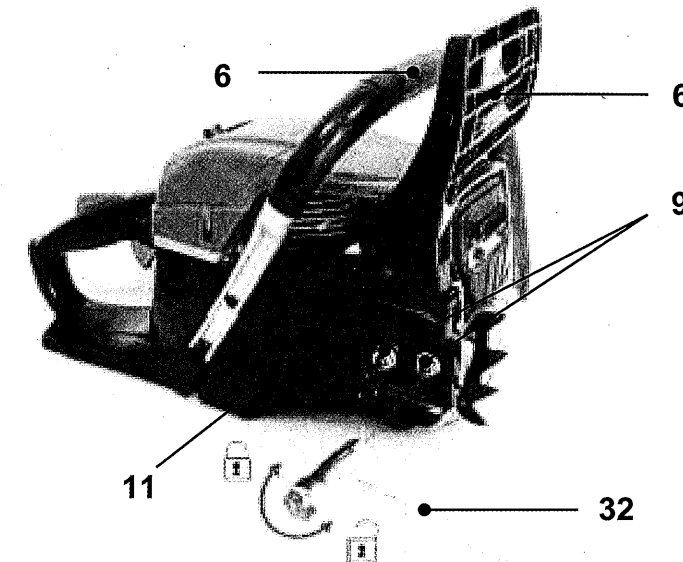

Fig. 1
2. Pull the front hand guard (6) back toward the front handle (5) to disengage the chain break, if necessary.
3. Loosen the retaining nuts (9) with the multi tool (32) and remove them together with the cover (11) (Fig. 1).